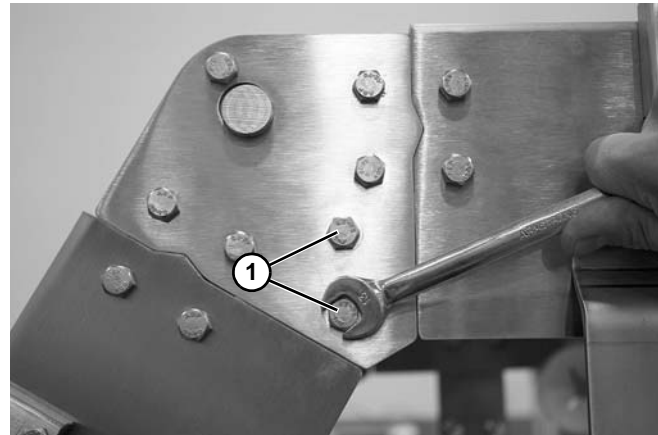

Figure 8
2. Remove screws (**Figure 8, item 1**).